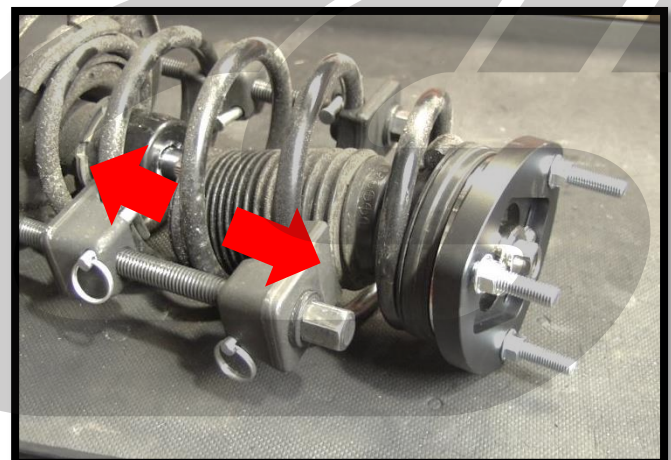

Figure 3d
- e) Fully release and remove the spring compressor from the strut assembly (**Figure 3d**).
- e) Fully release and remove the spring compressor from the strut assembly (Figure 3d).